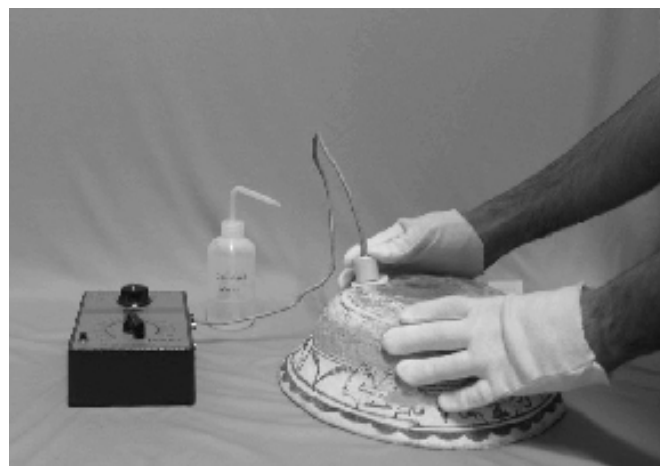

Figure 1. Mock up of first conductivity probe prototype.
The idea for the probe and the first model were developed by Werner Zimmt and Nancy Odegaard at the Arizona State Museum Conservation Lab. This prototype is shown in Figure 1 and was designed as an attachment to a LabLine Lectro Mho Meter. The original apparatus included a wax probe holding two platinum (Pt) wires. A rigid plastic cylinder and a foam gasket were held against a pot's surface, and filled with deionized (DI) water. The wax probe was placed in the water to measure the water conductivity – a measurement of the salt dissolved from the pot's surface.